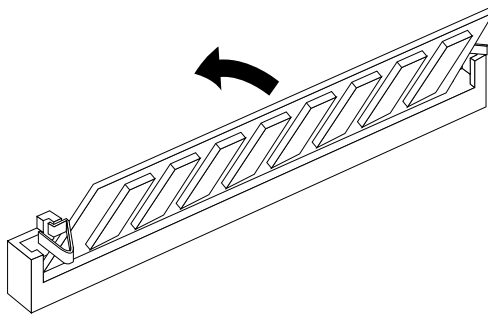

Figure 3-10 Tilting the SIMM Up to a Vertical Position
- Tilt the SIMM up into a vertical position, as shown in Figure 3-10.